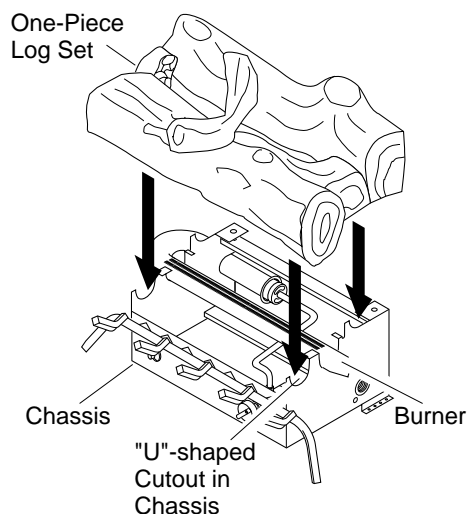
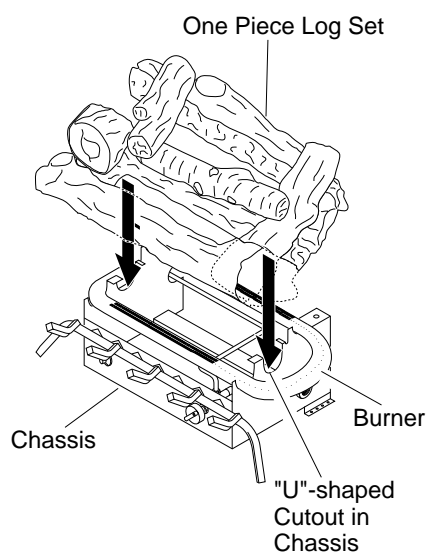
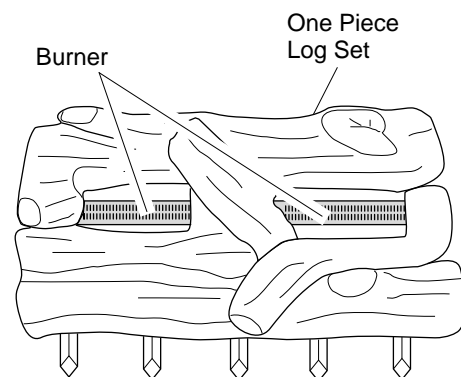
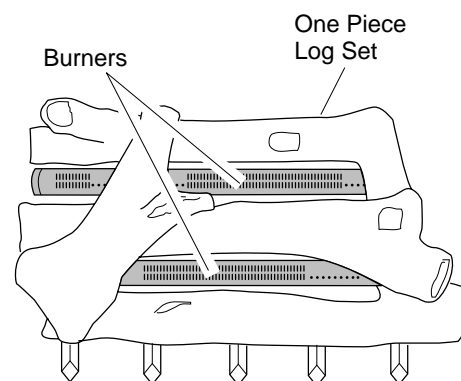

Figure 16 - Installing Vintage Oak One-Piece Log Set
Figure 17 - Installing Golden Oak or Birch One-Piece Log Set
Figure 18 - Installing Vintage Oak One-Piece Log Set (Top View)
Figure 19 - Installing Golden Oak or Birch One-Piece Log Set (Top View)
1. Place one-piece log set on grate to fit as illustrated in Figure 18 for Vintage Oak model and Figure 19 for Golden Oak or Birch models. Make sure bottom of front log is in front of "U"-shaped cutout in center of chassis (see Figure 16 for Vintage Oak model and Figure 17 for Golden Oak or Birch models). Log will fit securely on chassis. *Note:* 36" and birch models have more features but fit on the chassis the same. **IMPORTANT:** Make sure log does not cover any burner ports.